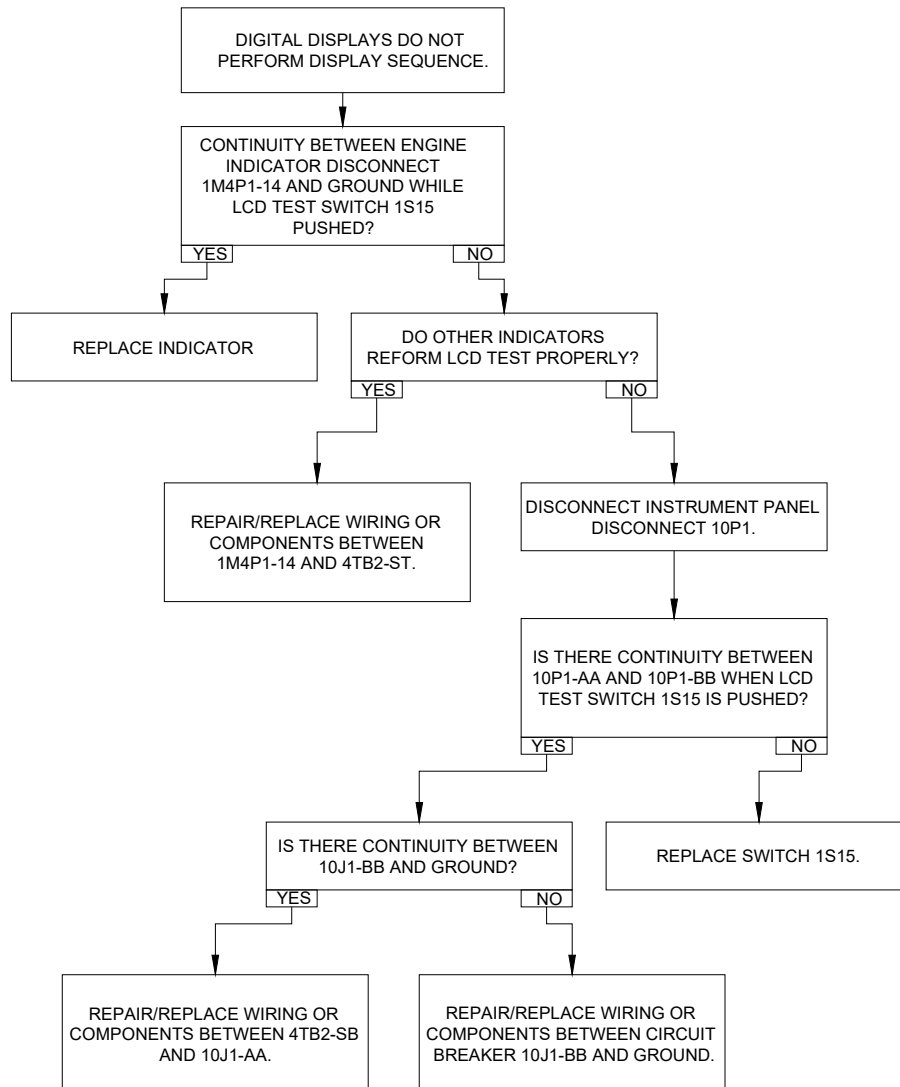

Figure 95-11: MGT Indication System - Trouble No. 2
- If the digital displays do not perform the display sequence, refer to Trouble No. 2 (Figure 95-11).